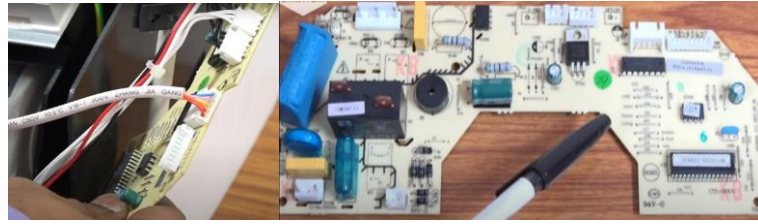

Fig. 1.29 Indoor unit Printed Circuit Board (PCB)
5. **Indoor unit Printed Circuit Board (PCB)** – The PCB consists of all electronic components such as transistors, IC, capacitors, diodes, voltage regulators, buzzers, Cmos battery, and microcontrollers. This unit is responsible for the remote operation using remote control. Figure 1.29 illustrates that the PCB unit is connected via electrical connectors to the indoor unit.